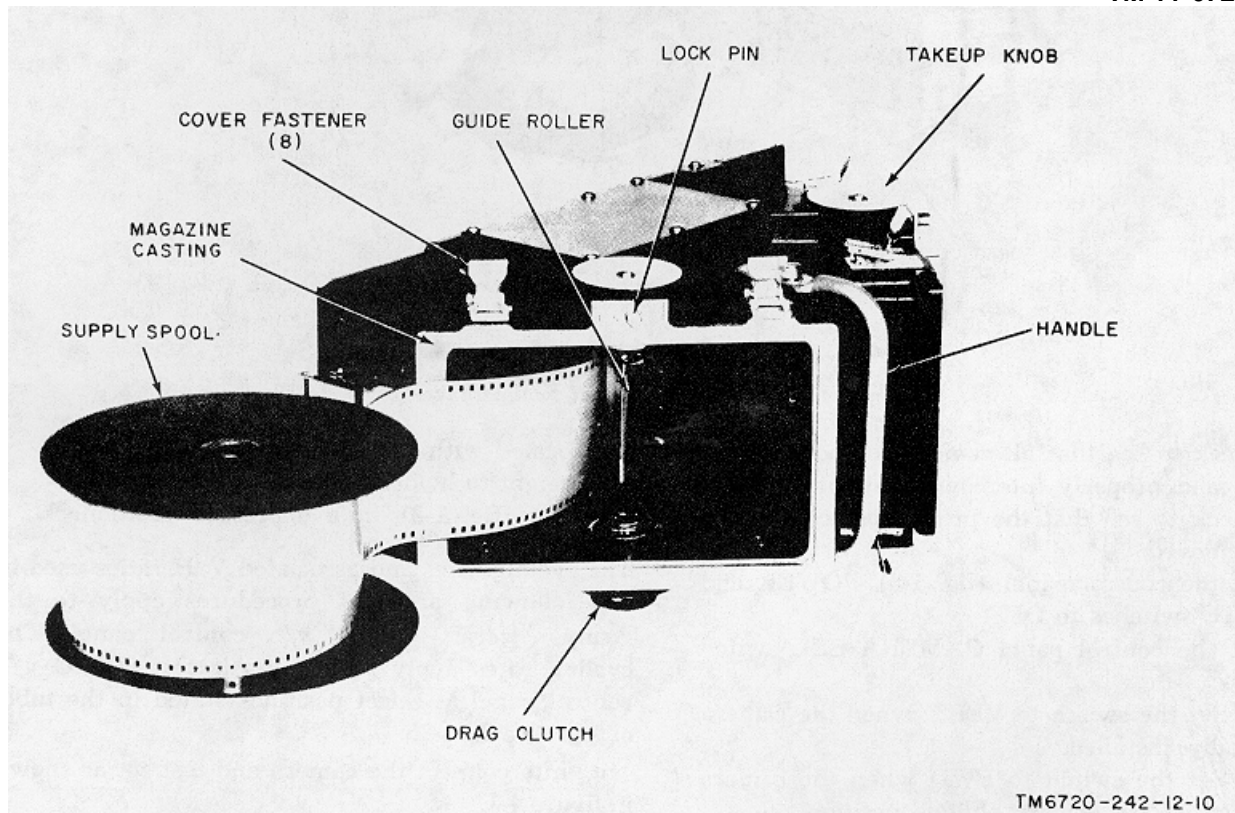

Figure 3-3. Start of film threading, total darkness.
- e. Push the film between the guide roller and the magazine casting (fig. 3-3), into the film chute until approximately 6 inches of film extends from the underside of the magazine.